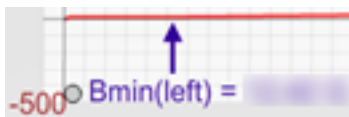

Figure 5: $B_{\min(\text{left})}$
- a Drag the Graph Tool all the way to the left. Slowly move it to the right until you find the last point that gives a reading equal to your $B_{\min(\text{left})}$ value. That is, the last point before the reading began to climb above the minimum value. Use the Sketch label and arrow tools to indicate that point as shown in Figure 5. Use your own reading for the magnetic field.